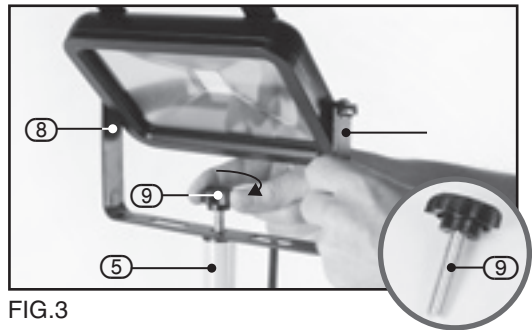

FIG.3
8.2 SINGLE LIGHT TRIPOD MOUNTED WORKLIGHTS – FIG. 3
- For the single light mounted tripod worklight, simply align the lamp head bracket (8) with the threaded hole at the end of the tripod stand (5).
- Attach the lamp head bracket fixing bolt (9) and turn in a clockwise direction to tighten.